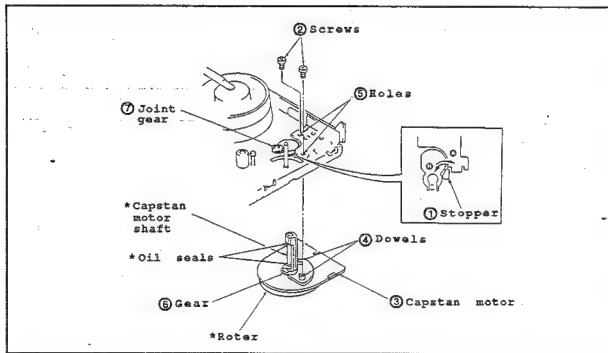

Fig.II-9
• Disassembling (Fig.II-9)
- (1) Set the unloading state.
- (2) Rotate the stopper ① in direction A until it comes to an end.
- (3) To take out the capstan motor ③, remove the two set screws ②.
• Reassembling (Fig.II-9)
- (1) Align the two dowels ④ with the two holes ⑤ to match the gear section ⑥ with the connecting gear ⑦.
- (2) Secure the capstan motor ③ with the two set screws ②.
- (3) Rotate the stopper ① in direction of B until it comes to an end.